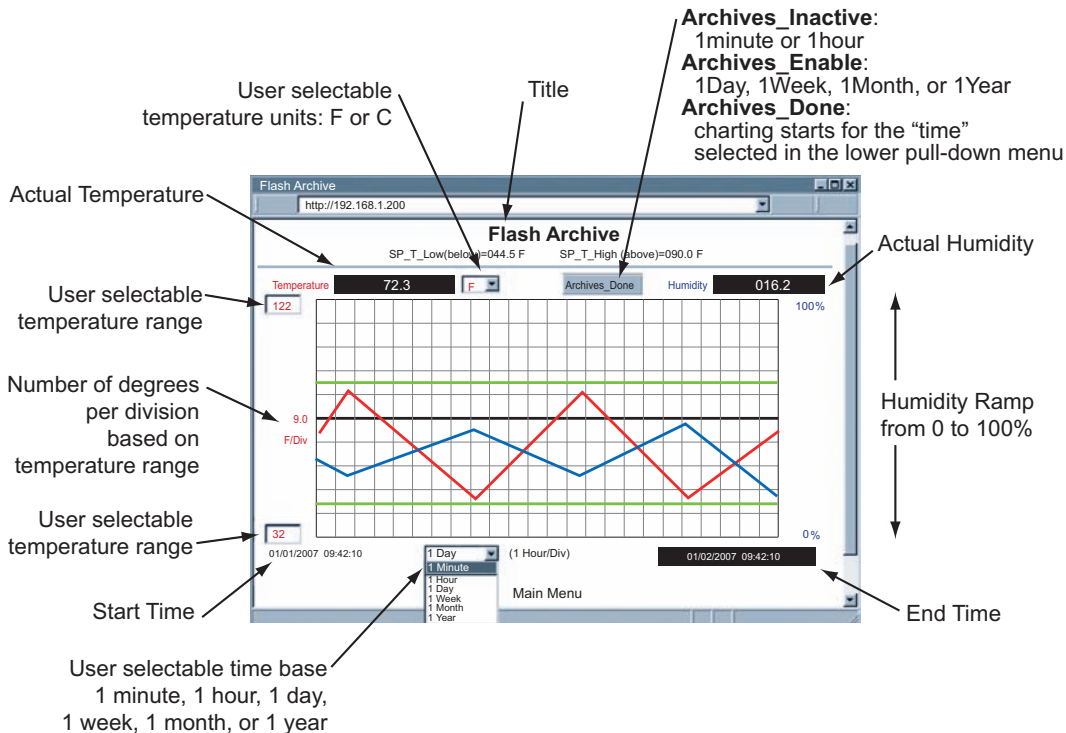

Figure 4.8 Adjustable Chart
- Click on **Chart**, the following page (**Figure 4.8**) should appear. The Java™ Applet graph displays Temperature and Humidity values which can be charted across the full span (-40 to 124°C, and 0 to 100% RH) or within any narrow range (such as 20 to 30°C). The time-base can display one minute, one hour, one day, one week, one month or one year.
This means that a pre-recorded Flash Card is installed, and by activating the chart the archived data can be viewed (Refer to **Figure 4.8**). The chart has the following selections: 1 Minute, 1 Day, 1 Week, 1 Month, 1 Year
In other words, they are the last specified selection e.g. 1 Day means the last day of the recorded data. Having done the selection, the "*Archives_Enable*" button must be clicked, which will then change to "*Archives_Done*" and the data will be retrieved accordingly. Also, the corresponding Start and End dates will reflect the respective time duration e.g. refer to **Figure 4.8** which is the last 1 Day, the dates are: